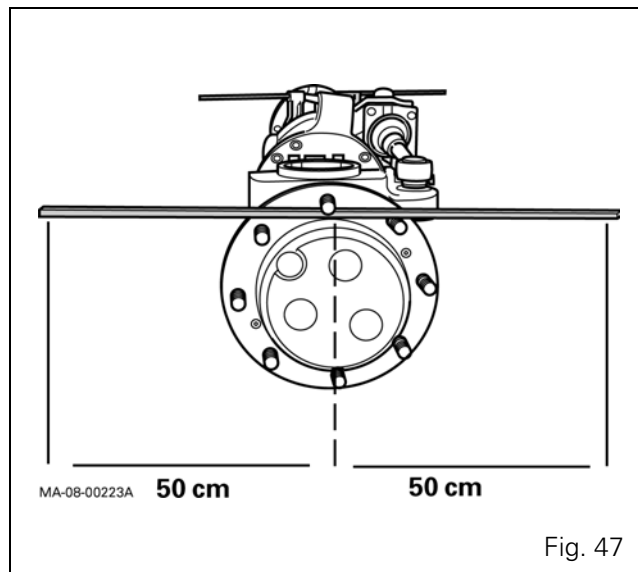

Fig. 47
44. Place two identical straight bars, each one metre long, along the sides of the ring gear and lock them on the wheel hub stud using two nuts (Fig. 47).